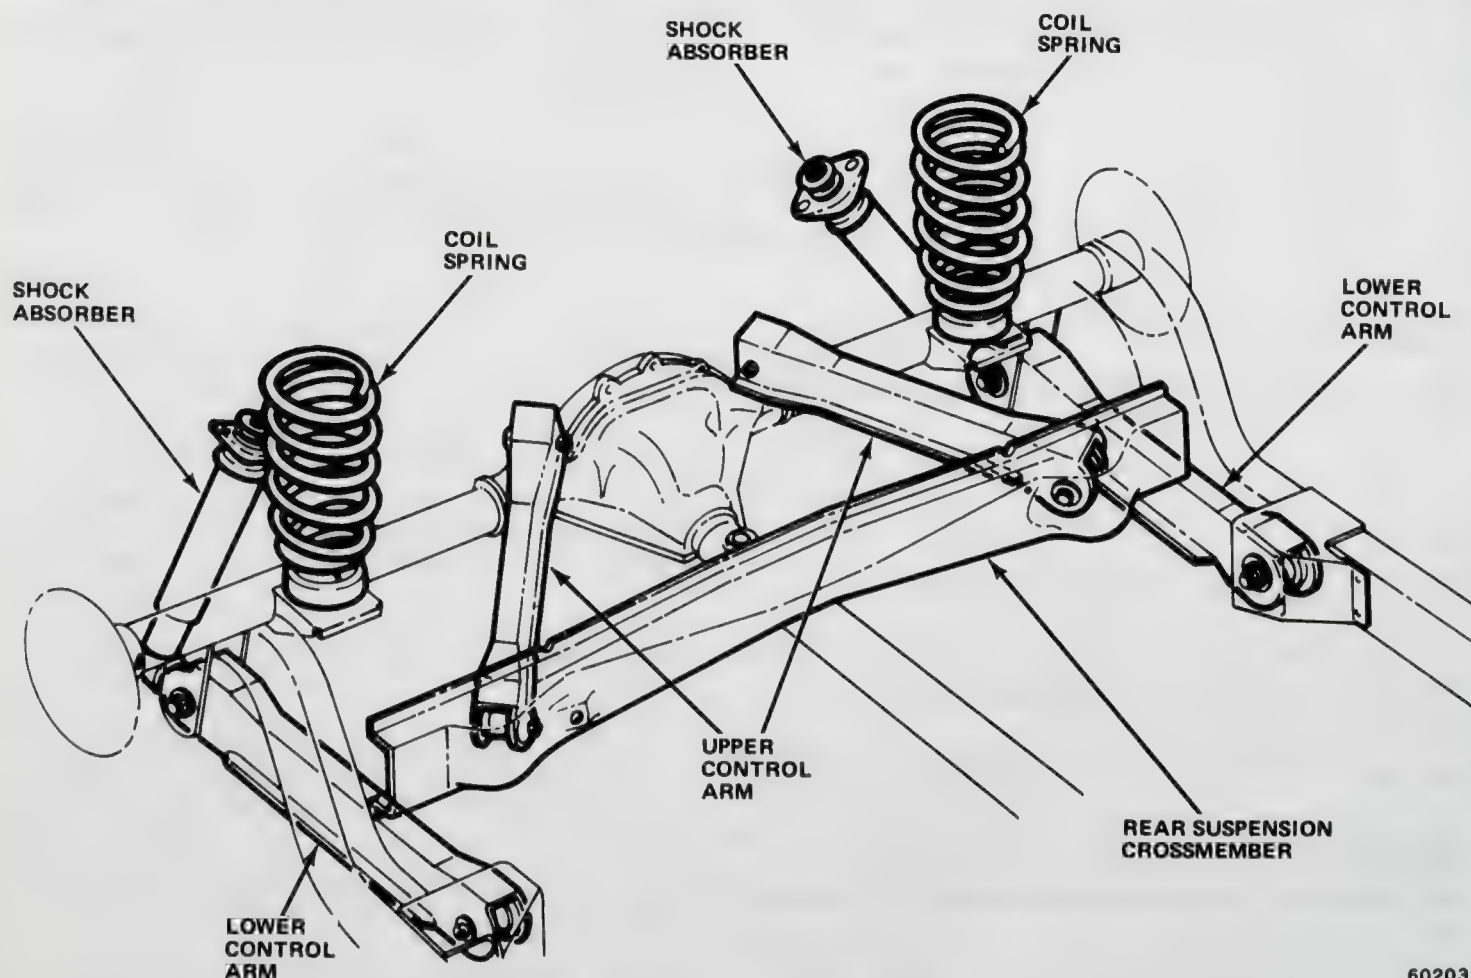

Fig. 2N-3 Rear Suspension—Matador
A four-link, trailing arm-type rear suspension utilizing coil springs is used on all Matador models (fig. 2N-3). Four control arms are used to maintain rear axle position and to attach the axle to the car. Two coil springs mounted on brackets attached to the axle tubes maintain ride height and quality. Telescopic double-acting shock absorbers are used to control spring action and provide the desired ride control.
(2) Remove shock absorber lower mounting stud, locknut, retainer, and grommet.
(3) Compress shock absorber by hand and disengage lower mounting stud from spring plate.
(4) Remove U-bolts spring isoclamps, and clamp bracket (fig. 2N-1).
(5) Remove pivot bolt and nut from spring front eye.
(6) Remove shackle nuts, shackle plate, and shackle at rear spring eye and remove spring.
(7) On Pacers, remove nuts attaching rear hanger bracket to mounting studs on frame side sill and remove spring (fig. 2N-2). Remove shackle nuts and shackle after spring is removed.